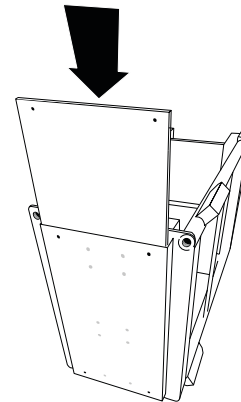

Fig. 1.2 Inserting Weight Plate
2. Insert the weight plate in the bay beneath the cart, directly below the shelf locking mechanism (see fig. 1.2).